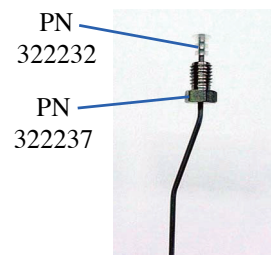

Figure 8.10. Offset sample needle with ferrule
2. Insert the ferrule (PN 322232) onto the offset sample needle (Figure 8.10).